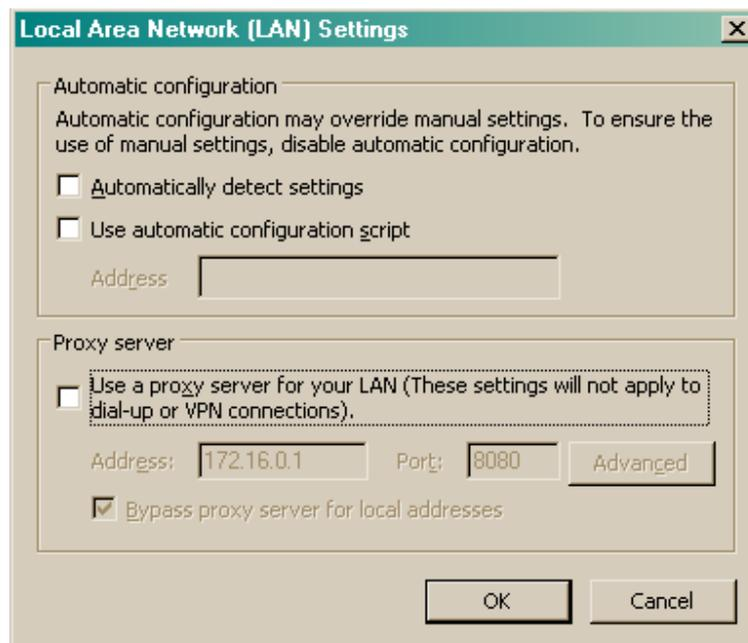

Figure 5-2. LAN Settings
7. Click on the “LAN Settings...” button. The window in Figure 5-2 should appear.